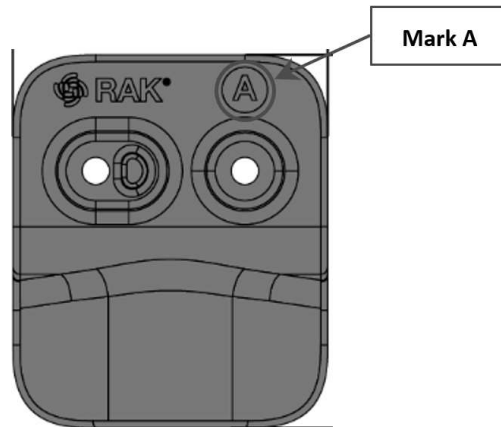

Figure 14: Mount accessory marked with the letter A
1. For vertical pole mount, use two (2) pieces of mount accessories, which has an indicated mark of the letter **A**, as shown in **Figure 14**.